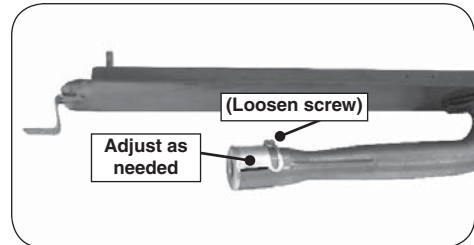

Fig. 54-3 Adjust air shutter
6. Use a $\frac{1}{4}$ " nut driver to loosen the air shutter screw, and adjust as needed. Be certain to re-tighten the screw when done. See Fig. 54-3.